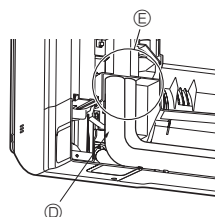

Fig. 3-10
6. Cover the flare connection portion with the pipe cover of the L-shaped connection pipe ④ so that it is not exposed. (Fig. 3-10)
- ▲ L-shaped connection pipe ④
8. Cover the flare connection portion with the pipe cover of the L-shaped connection pipe ④ so that it is not exposed. (Fig. 3-10)